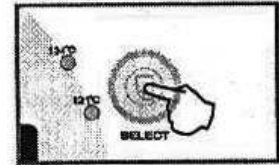

Fig 5-2
5.2.1 Press "SELECT" to set one of the cycles. The key toggles between the cycles at 121 °C, 134 °C and cotton mode. One of the indication lights turns on to show the cycle you selected. (Fig 5-2)